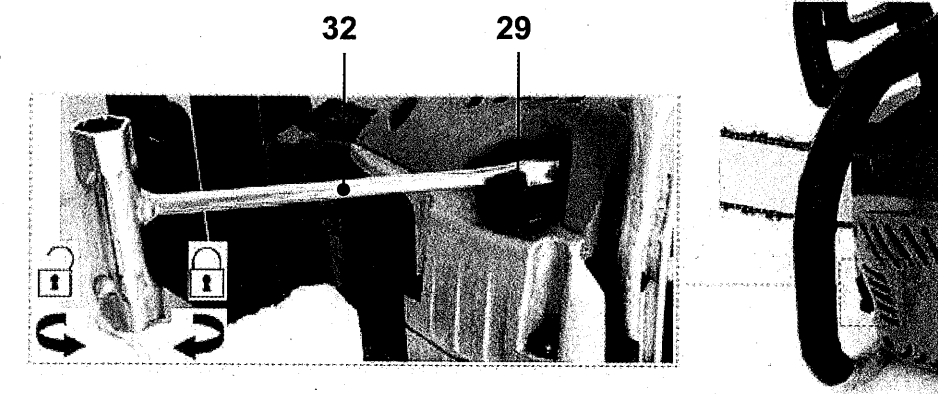

Fig. 13
1. Place the product on a stable, level surface with the chain oil tank cap (29) facing upward. We recommend laying a non-flammable sheet under the product.
2. Unscrew and remove the oil tank cap (29) (Fig. 13).